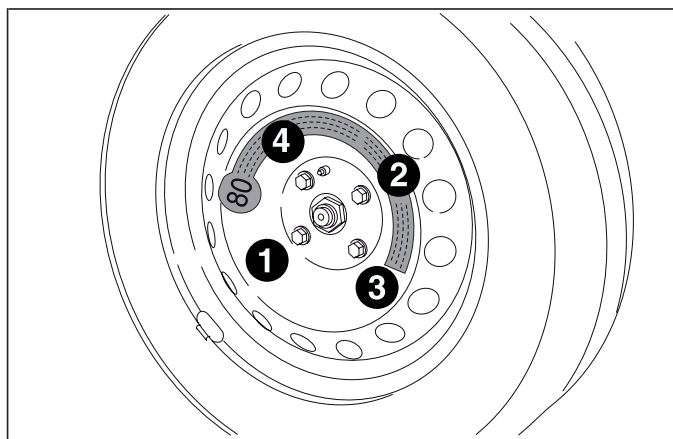

fig. 116
- ☐ use the wrench A provided to fully tighten the bolts in a criss-cross fashion as per the numerical sequence illustrated in fig. 116;